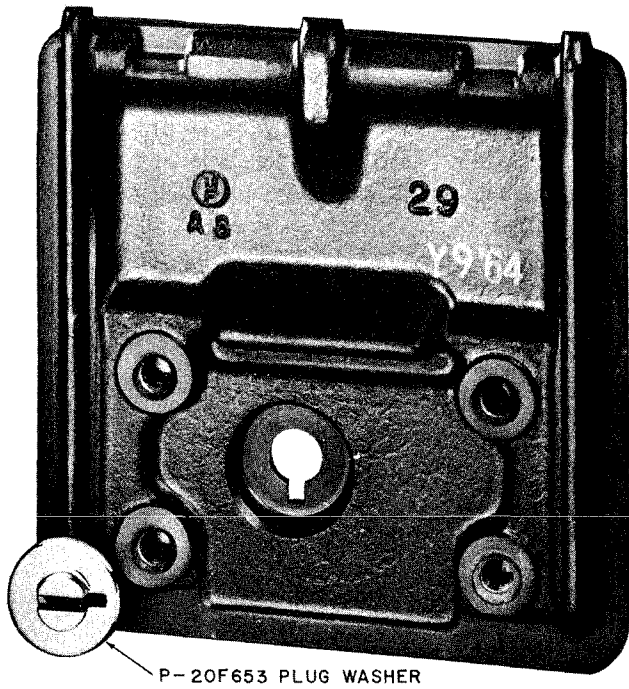

Fig. 11—1A-Type Coin Collector Door and P-20F653 Plug Washer
3.09 When a 14-type lock is used on a 1A-type coin collector door, a P-20F653 plug washer (Fig. 11 and 12) must be used to fill a portion of the lock hole to discourage the use of a door puller.